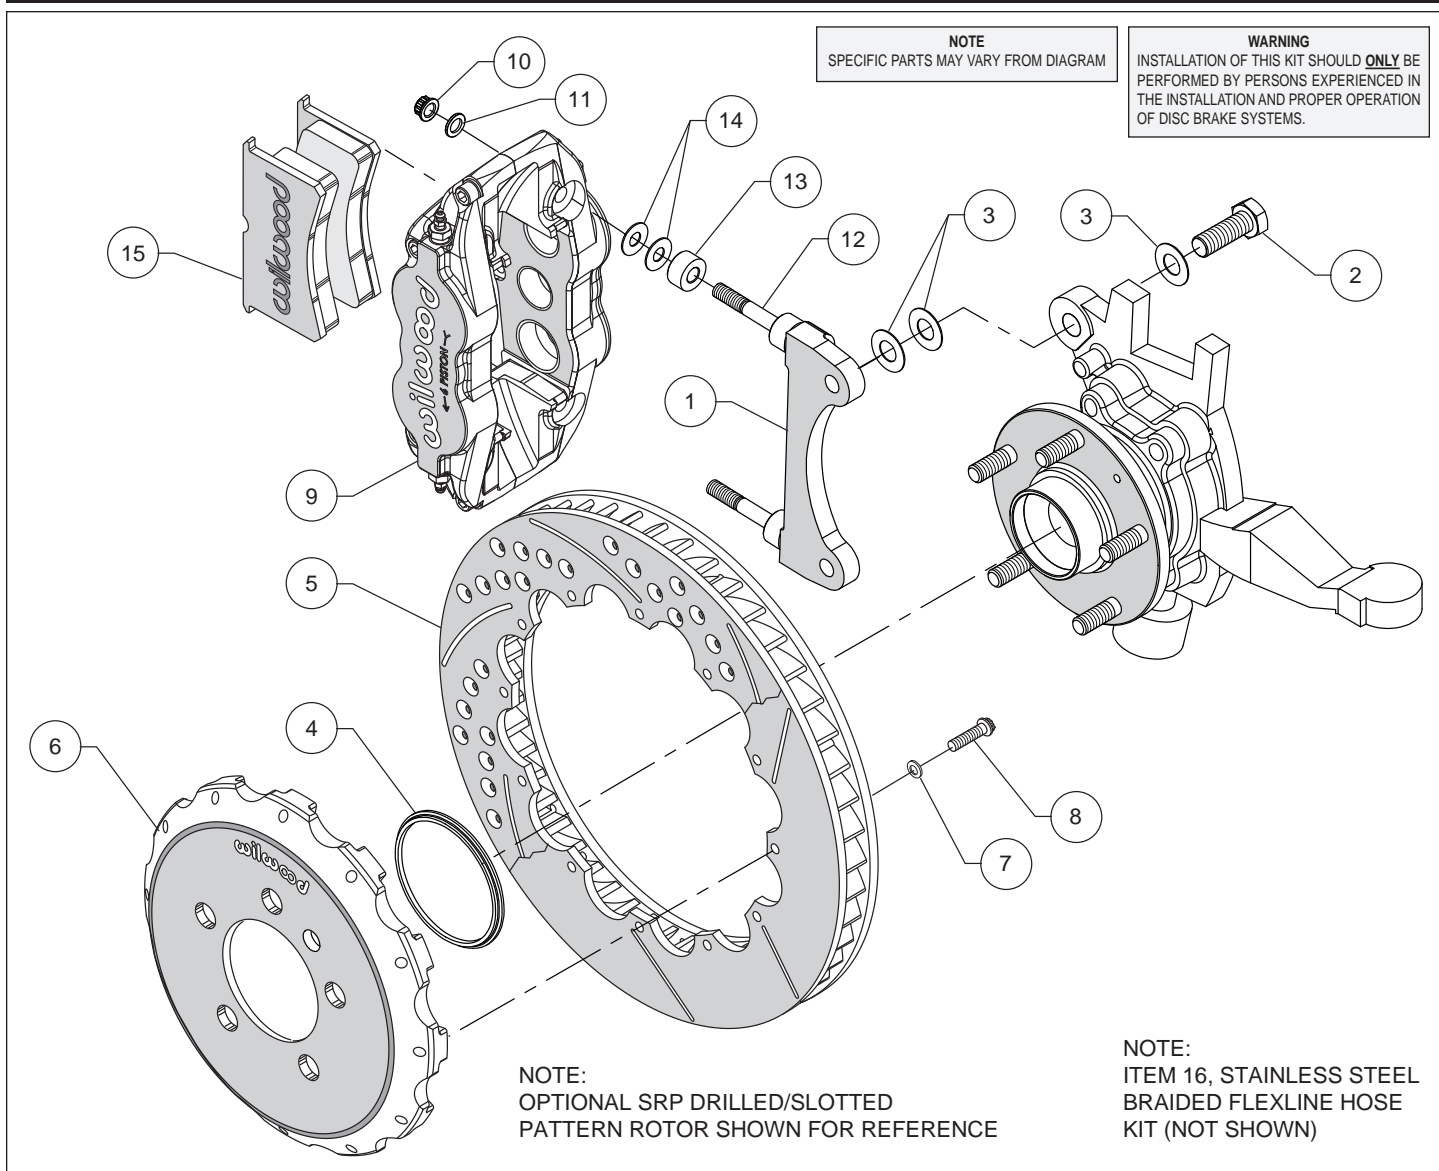
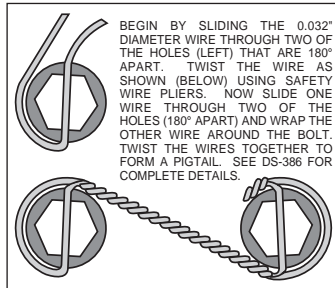

Figure 1. Typical Installation Configuration
Figure 3. Safety Wire Diagram
Assembly Instructions (numbers in parenthesis refer to the parts list and Figure 1 on the preceding pages):
- The caliper mount bracket (1) should initially be installed with clean, dry threads on the mounting bolts. Orient the bracket as shown in Figure 1 and Photo 1, and install using shim washers (3) and bolts (2). Initially place two shims (3) on each bolt between the bracket and upright, Figure 1. Temporarily tighten the mounting bolts. **NOTE:** *The bracket must fit squarely against the mount bosses on the upright.* Inspect for interference from casting irregularities, machining ridges, burrs, etc. Later, after the caliper alignment has been checked, the mount bolts will be secured using red *Loctite*® 271.
- Orient the rotor (5) and the hat (6) as shown in Figure 1 and Photo 2. Attach rotor to hat using bolts (8) and washers (7). Using an alternating sequence, apply red *Loctite*® 271 to the threads, and torque to 155 **in-lbs**. For an added measure of security, the bolts may be safety wired using standard 0.032 inch diameter stainless steel safety wire as shown in Figure 3. Please refer to Wilwood's data sheet DS-386 (available at www.wilwood.com/Pdf/DataSheets/ds386.pdf) for complete safety wire installation instructions.
- Slide the rotor registration adapter (4) onto the axle register on the axle hub with the smaller O.D. facing outward, Photo 3. Slide the hat/rotor assembly onto the axle hub. **NOTE:** *The hat must fit flush against the axle hub flange or excessive rotor run out may result.* Install three lug nuts (finger tight) to keep the hat/rotor assembly in place while continuing with the installation.
- NOTE:** *This kit contains distinct right and left hand calipers that must be mounted in a specific direction, as described below.* Lubricate the caliper mounting studs (12) with lightweight oil. Initially place two .035" thick shims (14) and spacer (13) on each stud as shown in Figure 1 and Photo 4. Mount the caliper (9) onto the bracket (1) using lock nuts (10) and washers (11), Figure 1. Ensure that the caliper is mounted so that the largest pistons are at the rotor exit end of the caliper, in relation to the direction of rotor rotation. Temporarily tighten the lock nuts and view the rotor through the top opening of the caliper. The rotor should be centered in the caliper, Photo 5. If not, adjust by adding or subtracting shims (3) between the bracket and the upright. Always use the same amount of shims on each of the two mounting bolts. Once the caliper alignment is correct, remove the bracket mounting bolts one at a time, apply red *Loctite*® 271 to the threads, and torque to 77 ft-lb.